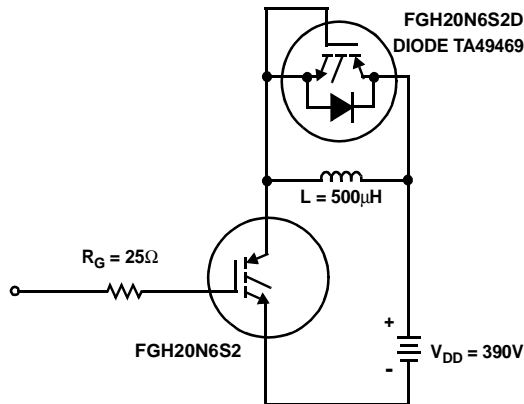

Figure 20. Inductive Switching Test Circuit
1. Values for two Turn-On loss conditions are shown for the convenience of the circuit designer. E_{ON1} is the turn-on loss of the IGBT only. E_{ON2} is the turn-on loss when a typical diode is used in the test circuit and the diode is at the same T_J as the IGBT. The diode type is specified in figure 20.